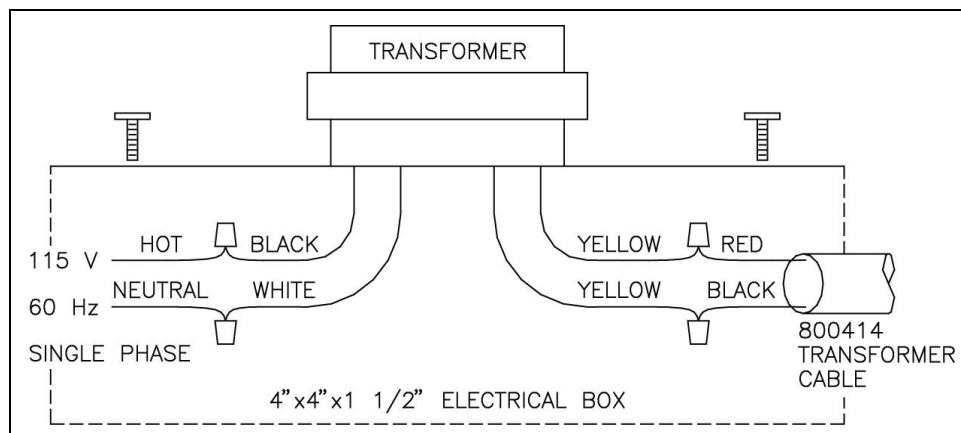

Figure 11: Transformer Installation
4. Connect 115 VAC line voltage HOT wire to BLACK wire on TRANSFORMER and NEUTRAL wire to WHITE wire on TRANSFORMER (Figure 11). Connect the RED wire on 800414 TRANSFORMER CABLE to either YELLOW wire on the TRANSFORMER and the BLACK wire to the remaining YELLOW wire.